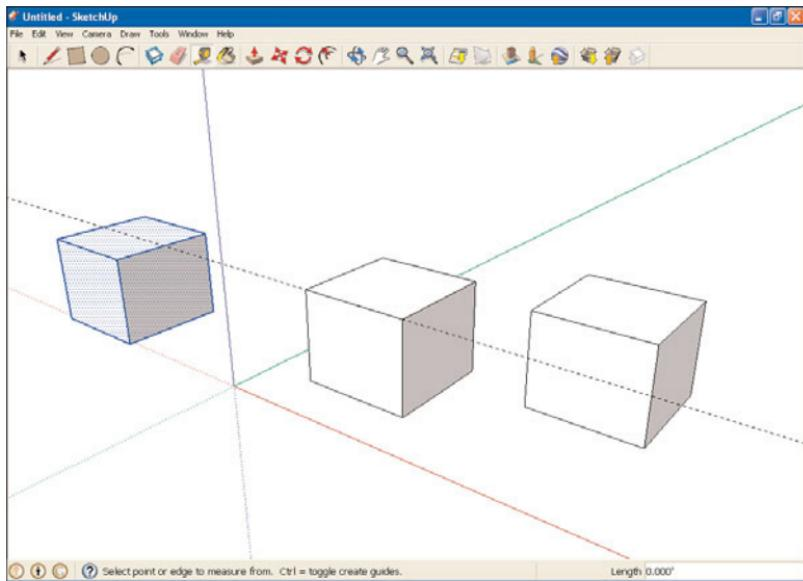

FIGURE 9.16 A new guide.
11. Click the top-front edge of one of the cubes. A guide appears (represented by a dotted line), as shown in Figure 9.16.